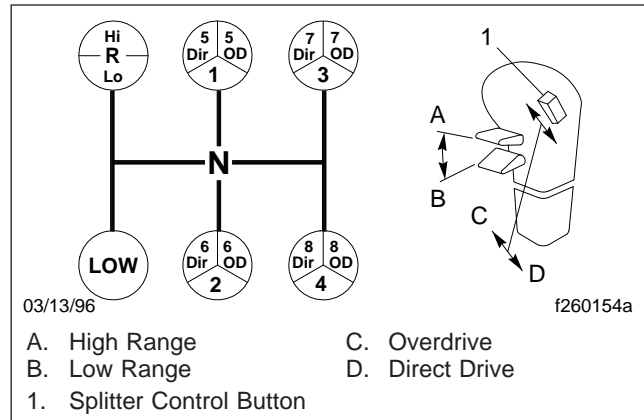

Fig. 8.17, Meritor 13-Speed Transmission Shift Pattern
Meritor 13-speed transmissions have 13 forward speeds and two reverse speeds. Each transmission consists of a 5-speed front section, and a 3-speed auxiliary section. The auxiliary section contains low and high range ratios, plus an overdrive splitter gear for high range. See Fig. 8.17.
4. While in 5th direct, and ready for the next downshift, push the range selection lever down into low range. Double-clutch through neutral, and shift into 4th gear. See Fig. 8.17. As the shift lever passes through neutral, the transmission will automatically shift from high range to low range.